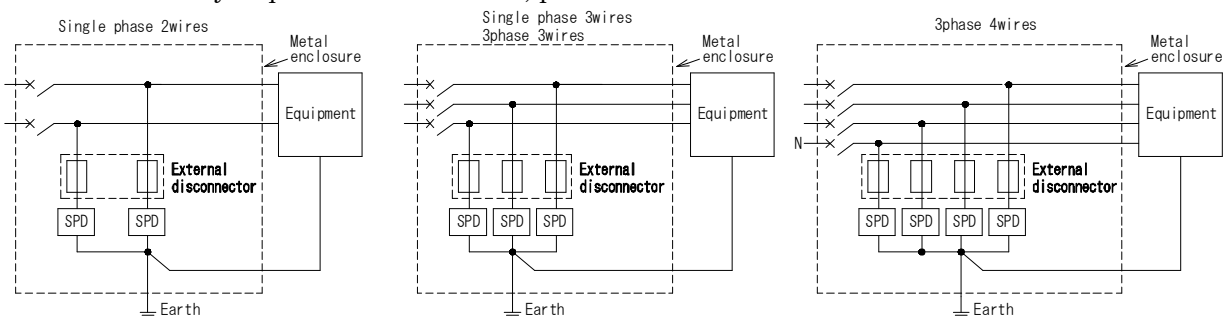

Fig.1 SPD installation circuit
- b) Install the SPD as shown in Fig.1 and install the fuse as an external disconnector on the electric input side of the SPD. Use the fuse and fuse holder from our company's request.